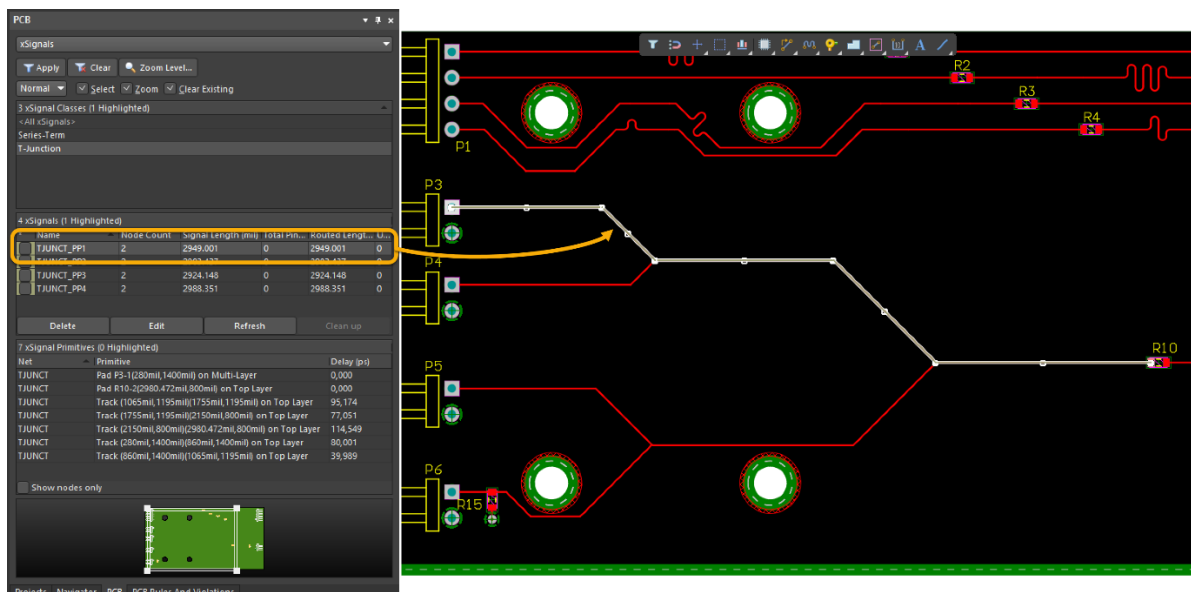

Figure 18. One signal path from the T-Junction xSignal class
- In the following xSignals pane, simply select each individual xSignal from TJUNCT_PP1 to TJUNCT_PP4 to see the signal path as shown in Figure 18.